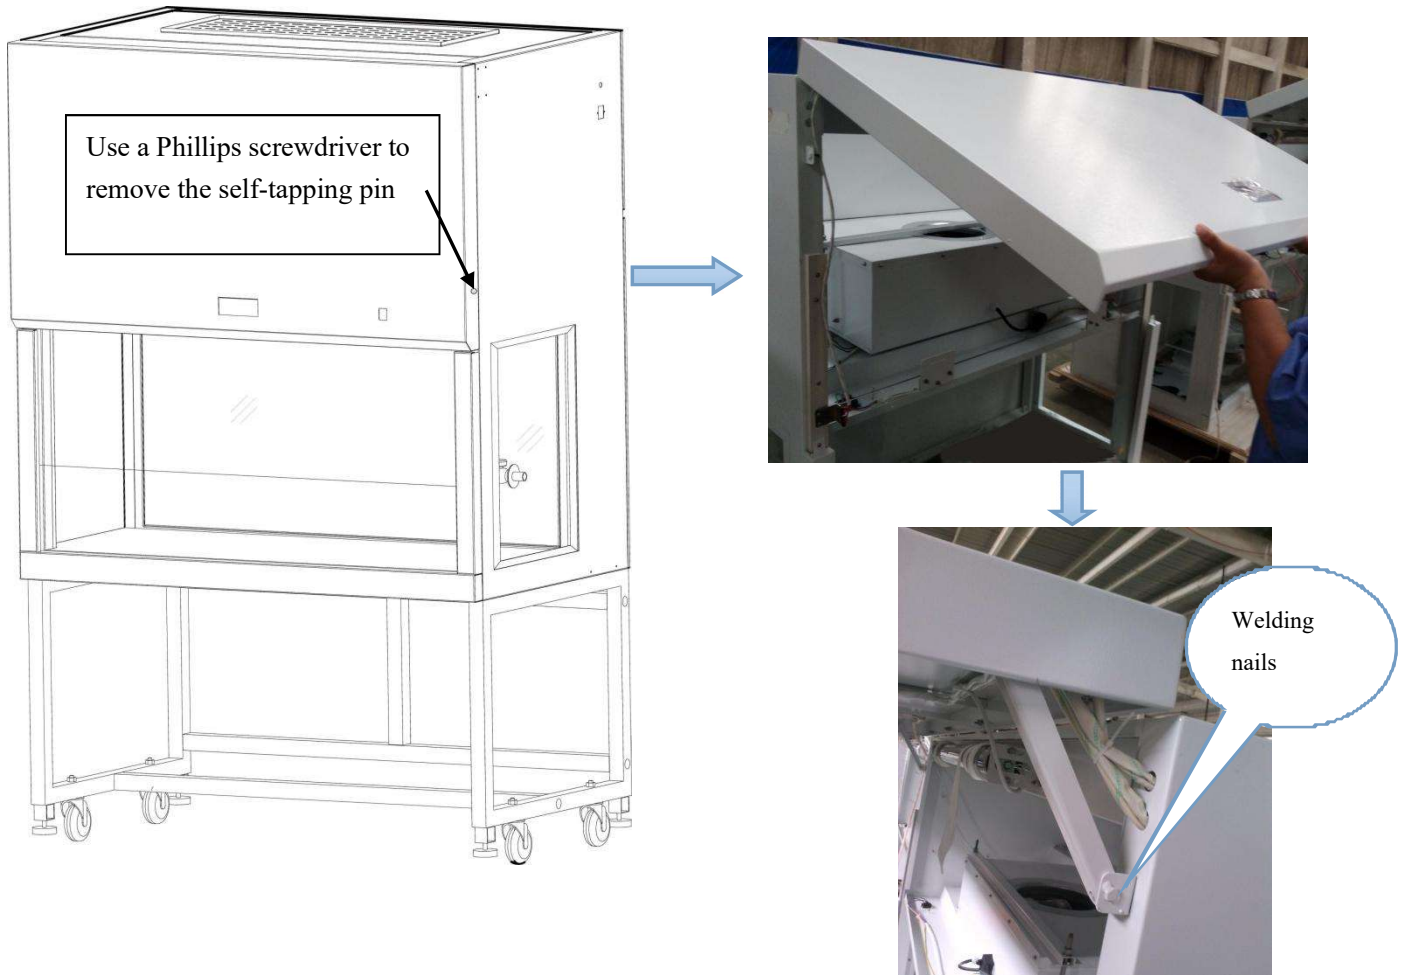
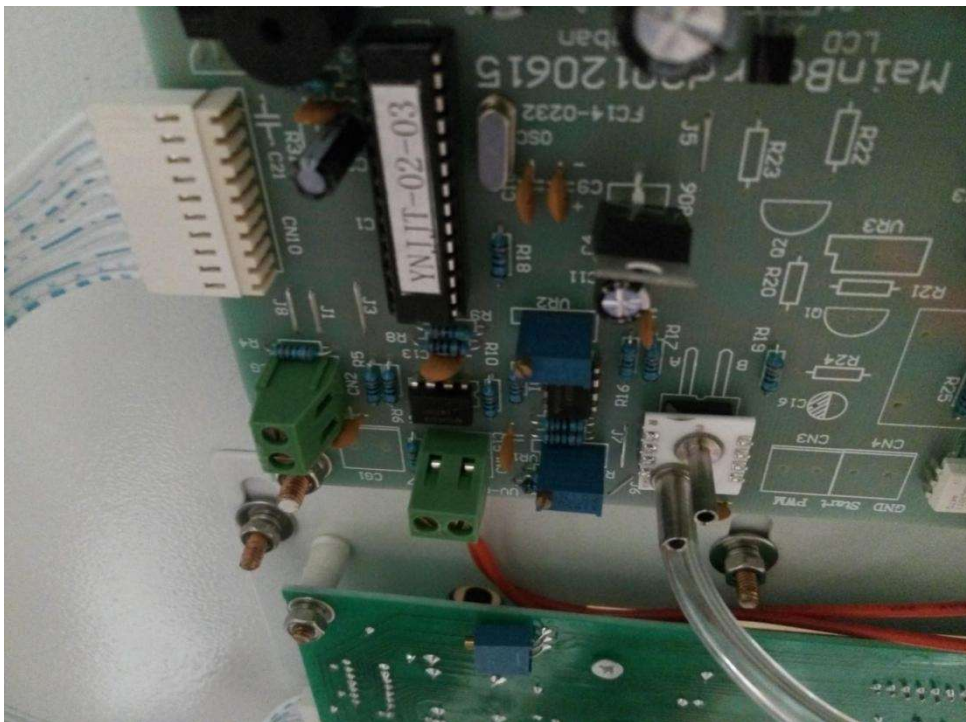
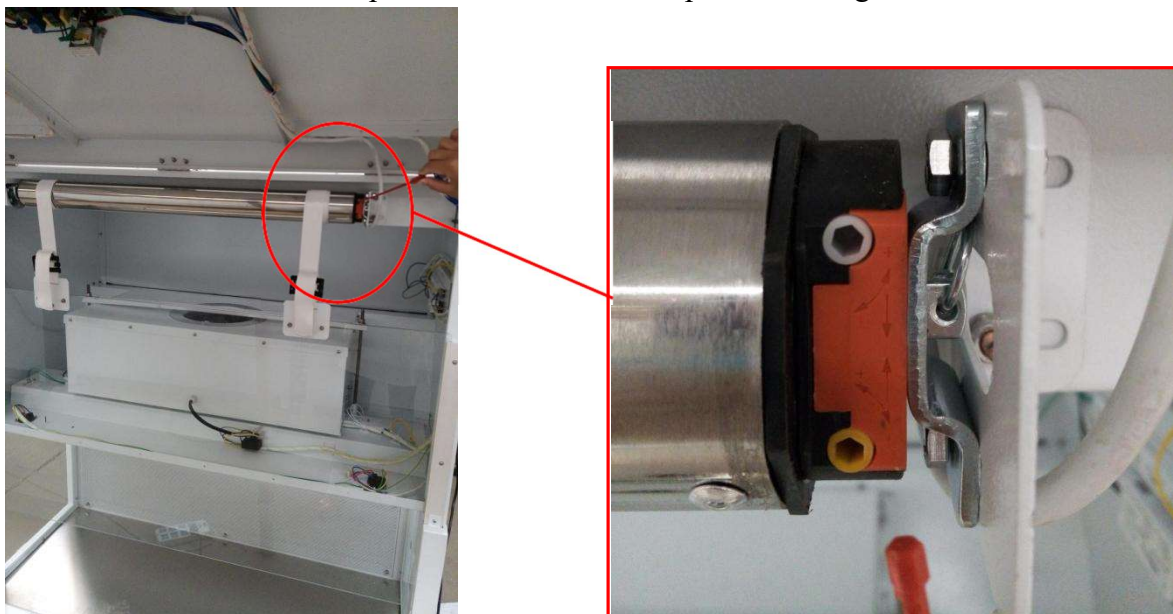

Figure 2 Support panel
Figure 10 Connection between trachea and control panel
Figure 14
1.3 Open the front panel (Figure 2) to view the boat switch (Figure 3).
Disconnect the cabinet power supply, supporting the panel as Figure 2. At first, take a picture to record the wirings' position surrounding of the transformer, then remove the connection from the transformer, using a wrench to remove the nut fixed with transformer. After placing the nuts, pads, bottoms into the tool box, remove it and install the new one, then power test.
2.1 Open the front panel (as Figure 2), checking the FFC to connect display board and main control board on the back of Operation panel is inserted, no break or fall off.
Open the operation panel (as Figure 2) to see the glass door motor. After powered on and switched on the device, press the on-off button, then keep pressing the UP button, using a multimeter to detect the voltage between binding post CN8 (UP) (as Figure 4) and the neutral line (the blue one) of the power switch. The voltage value shall be the power supply voltage of the device. Then, pressing the down to detect the voltage between binding post CN8 (DOWN) (as Figure 4) and the neutral line (the blue one) of the power switch. The voltage value shall also be the power supply voltage of the device. If the multimeter does not show the voltage, the control panel is damaged. If the voltage is normal, connect the brown line that is close to CN8 (Fig. 4) on the control board and the neutral or black line of the motor directly to the AC. If the tubular motor does not operate, it is damaged, so pls replace the tubular motor. Replacement method see Failure 12, pls.
5.2 Opening the operation panel (as Figure 2), the device is powered on and the power switch is turned on, then press the power button and socket button in turn, using the multimeter to test voltage between the "socket" terminal on the CN7 (Figure 4) and Zero line(the blue one). In normal, the voltage values should be the supply voltage of the device), if no electricity, control panel damaged and replace the control panel, pls.
When it is power off, open the control panel (Figure 2) and take a photo to record the wiring position, then remove the wiring and the screws around the socket with a Phillips screwdriver, then install the new socket in the corresponding position and fix it firmly, finally, according to the wiring position picture, put down the operation panel, and powered on to test.
6.2 If ok for the above item, opening the operation panel (as Figure 2), when the device is powered on and the power switch is turned on, press the power button and the illumination button, and use the multimeter to detect the voltage between the "light" terminal on the CN6 control board(as Figure 4) and the zero line (blue line) of the power switch. The voltage value should be the supply voltage of the equipment. If there is no voltage, the control board is damaged and replace the new control board, pls.
7.2 If there is no problem occurred as described above, open the control panel (The details are shown in Figure 2), check whether the UV control interlocking microswitch (Figure 10) and the wire are damaged or broken. Connect the wire to the CN1 of the circuit board (Figure 4). If the microswitch is not able to contact the front window glass at the top of the limited stroke, the microswitch is replaced.(see Figure 10)
93 The Airflow Velocity is too large.: When the airflow velocity is too large and is far above the normal range, it means that the trachea is bent. Check according to the trachea line (Fig. 10), if slightly bent, the alignment can be continued. If damaged, replace a new trachea.
10.1 Firstly, put the glass to the minimum height, when it reaches the work table, cut off the power, and then support the panel, like Figure 2
12.1 Firstly, put the glass to the minimum height, when it reaches the work table, cut off the power, and then support the panel, like Figure 2
Adjustment of glass stroke: First, open the front panel (figure 2),Switch (the power) on, firstly,press the glass up button ,Hold down until the glass reaches its highest point, if it below the specified height,adjusting the lower side regulating hole by hexagonal adjusting rod of tubular motor in counterclockwise rotation; If the lifting height of the glass exceeds the specified height, then regulate upper side regulating hole of tube motor in clockwise rotation; Press the glass down button until the glass falls to the bottom, If the glass can not drop to the bottom , regulate upper side regulating hole of tube motor in counterclockwise rotation; If a long part of the belt leaks out after the glass falls to the bottom, then regulate lower side regulating hole of tube motor in clockwise rotation,Until the front window is in the same position as before it is replaced. As Figure 14
1 when the cabinet is out of power, support the operating panel, take pictures and record the connection of the fan, and remove the connection of the lead from the fan, as shown in figure 2